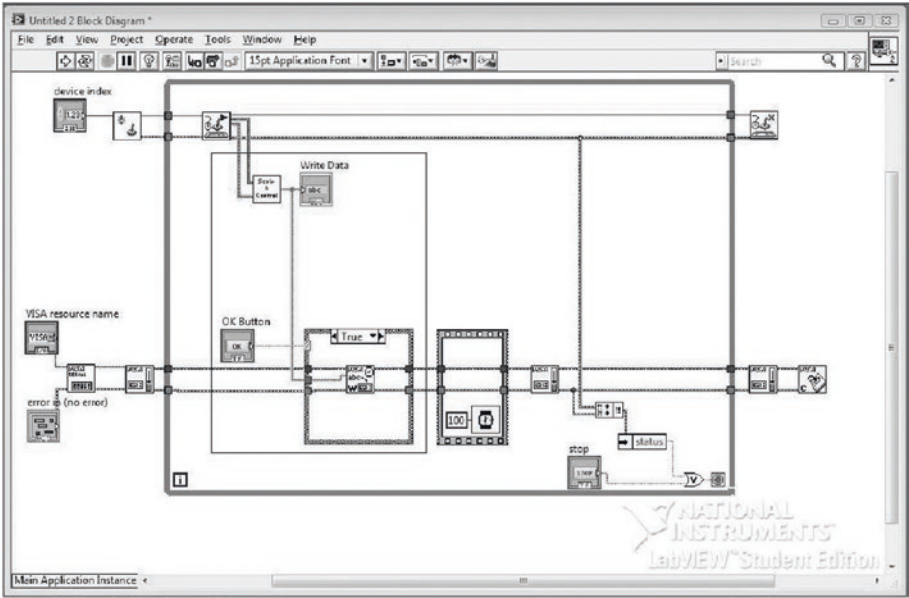

Figure 10-27. Add a SubVI to the Block Diagram that will scale the Xbox controller's values and dictate which direction to move the robot
5. Finally, connect the string terminal on the Scale and Control Function to the write buffer terminal on the VISA Write Function. Figure 10-27 shows the completed SubVI.